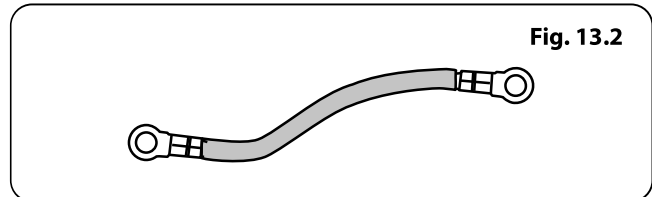

Fig. 13.2
**Your range is supplied with a ground strap that can be used when connecting to a three wire cord. Consult your electrician before changing the supplied cord kit (Fig. 13.2).**